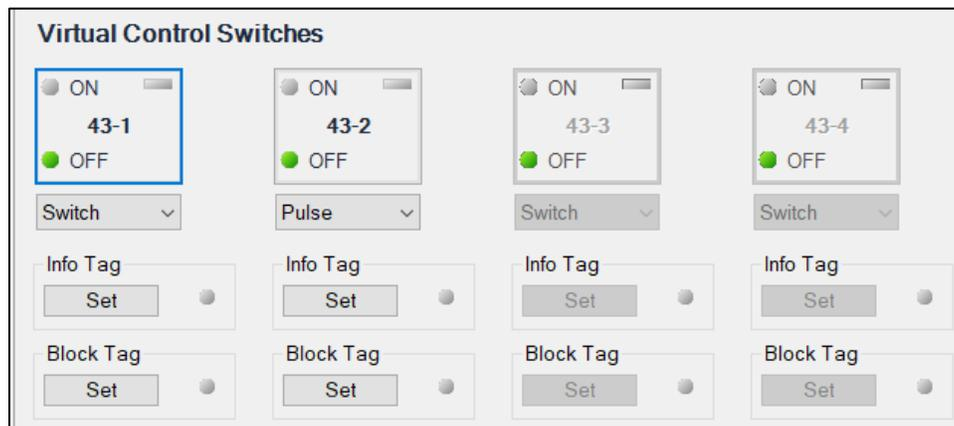

Figure 23-1. Virtual Switches Control Screen
1. Use the Metering Explorer to open the Control/Virtual Switches tree branch (Figure 23-1).
2. If Switch/Pulse mode is selected on the Virtual Control Switches (43) settings screen in BESTCOMSPi.us®, use the drop-down box to select either Switch or Pulse.
Tagging of virtual control switches can be accomplished through the front panel and through BESTCOMSPi.us®. Use the Metering Explorer in BESTCOMSPi.us® to open the Control/Virtual Switches tree branch. Click on the Set button for Info Tag or Block Tag. If tagging is successful, the indicator to the right of the Set button will turn green. A tagged switch is indicated by an amber indicator in the upper right corner of the element button. Click on the Reset button to clear a tag. Refer to Figure 23-1.